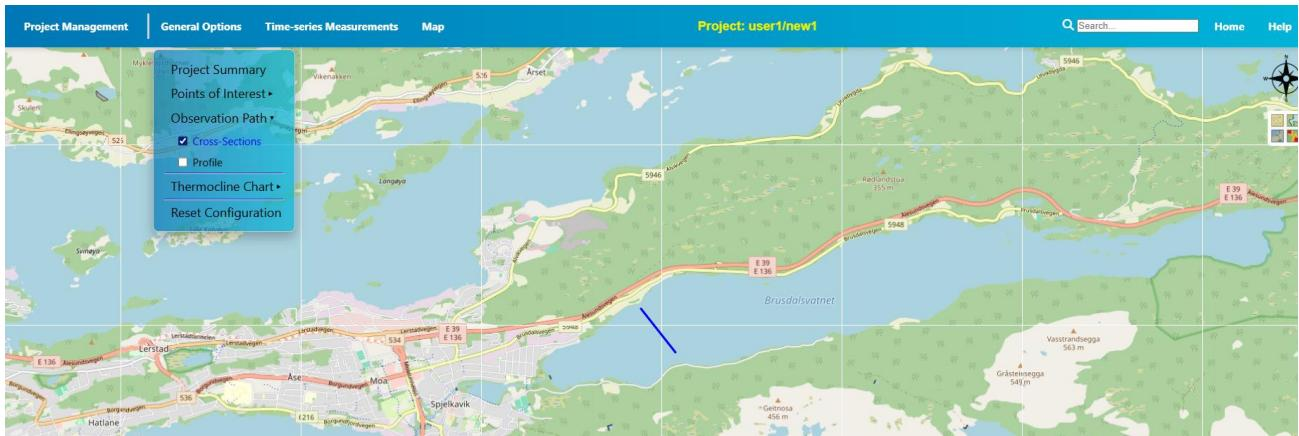

Figure 5.5. Cross-Sections option
- With “Observation Path”, user can show/hide Cross-Sections (if HYD simulation has this in output) and define “Profile” from an available map (Figure 5.5).